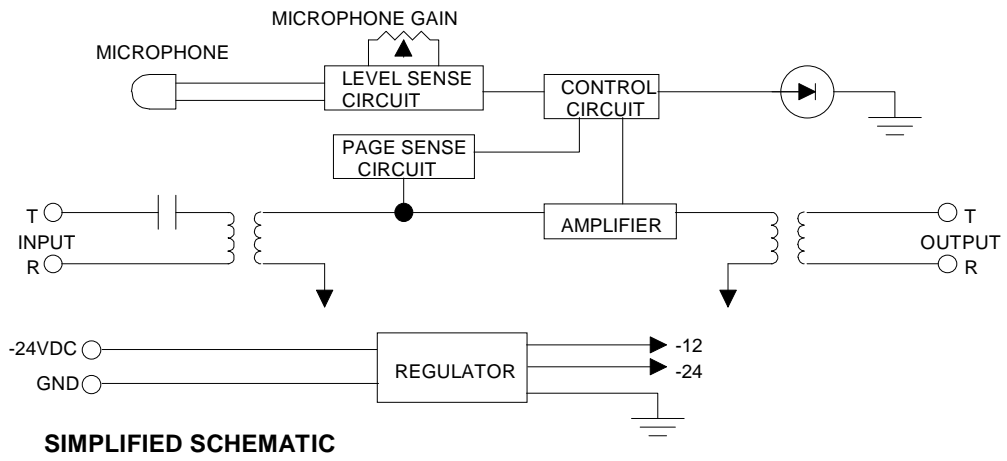

FIGURE 3
After the page is made, there is a five (5) second delay before the V-9933A starts monitoring the area noise levels. Refer to Figure 3 for a simplified schematic of the V-9933A.